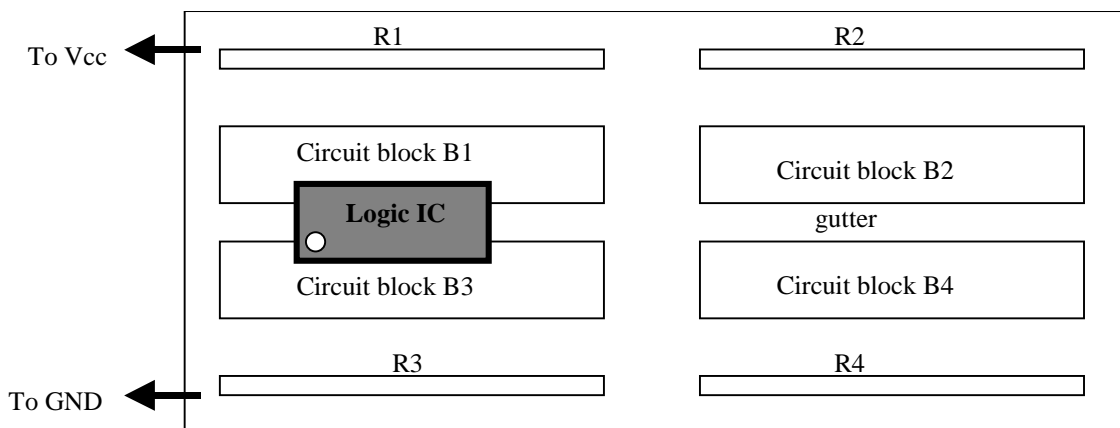

Figure 1 A typical bread board with a mounted IC
- 2.1 Figure 1 shows a logic IC mounted on a typical prototype circuit board which is also commonly known as a “bread board”.
- 2.3 There are also four circuit blocks (B1, B2, B3 and B4) on this circuit board. Within each circuit block, each column of holes are internally connected. However, different columns are not connected to one another. The four circuit blocks are also not connected to one another. **An IC should be mounted such that it sits across the gutter between two circuit blocks** as shown in Figure 1. All the metal pins on the IC should be fully inserted into the holes to ensure proper contacts.